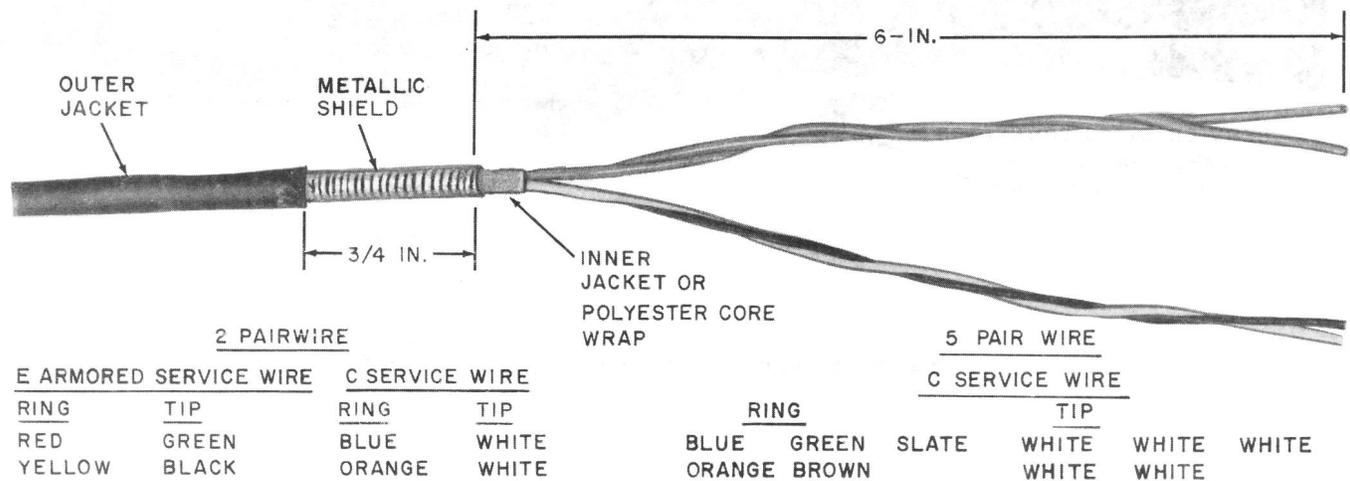

Fig. 3—Prepared Service Wire—13- or 14-Type Closure
3.01 Prepare service wire as shown in Fig. 3.